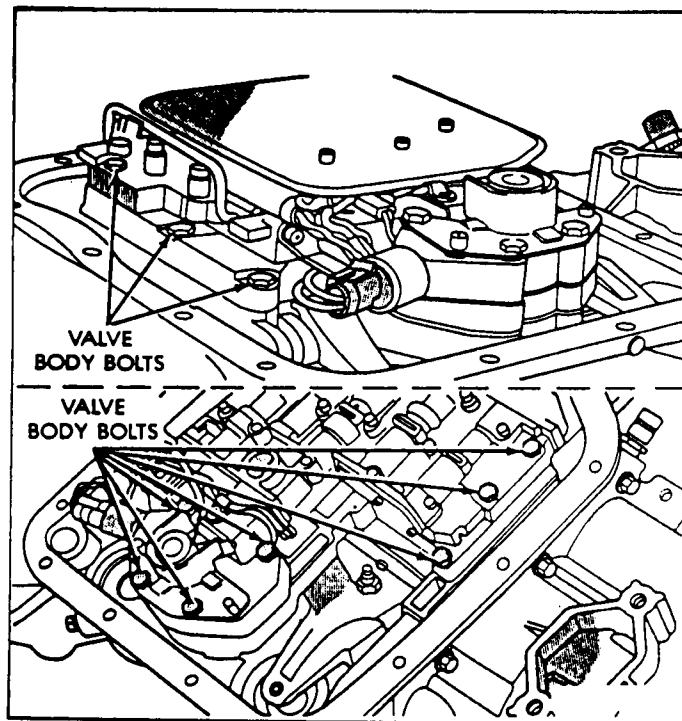

Figure 147
46. Install and start the 10 valve body bolts in locations shown in Figure 147.
47. Torque the ten valve body bolts down to 105 in.lbs. (See Figure 147).